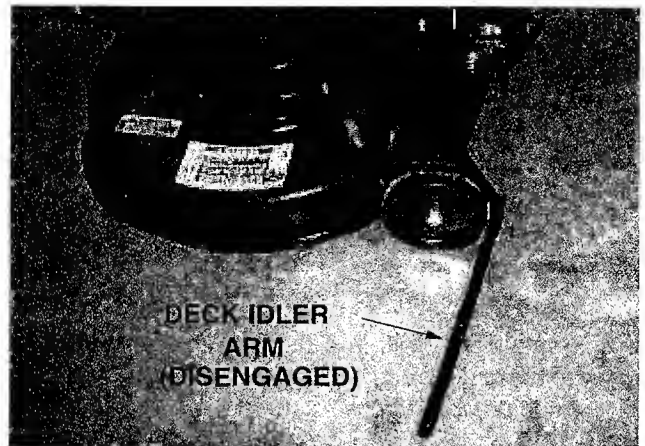

Figure 7
3. Disengage the deck idler arm lever from its stop bracket and release the spring tension by rotating the lever out and rearward (Refer to Figure 7).